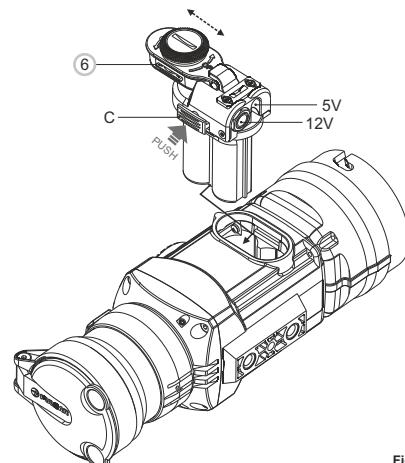

Fig. 3
- Install the external power adapter into the monocular's battery compartment (**see Fig. 3**). Make sure that the adapter's latches (C) have snapped on both sides.
- Secure the cover (6) on the adapter (**see Fig. 3**).
- Power the unit on with a short press of the “**ON/OFF**” (9) button.